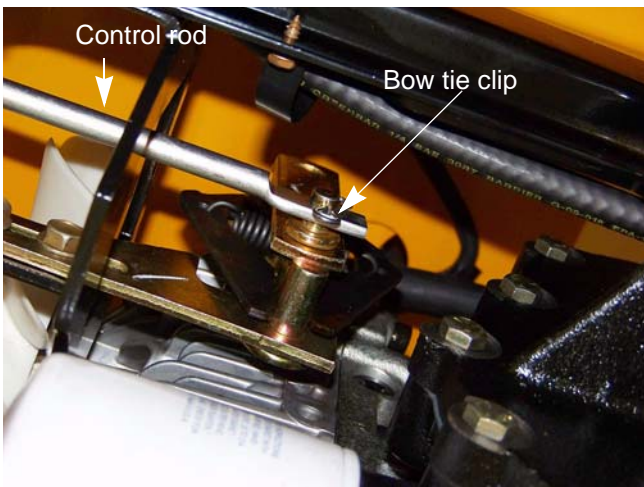

Figure 5.16
- 6b. Remove the bow tie clip that holds the drive control rod to the hydro pump. See Figure 5.16.